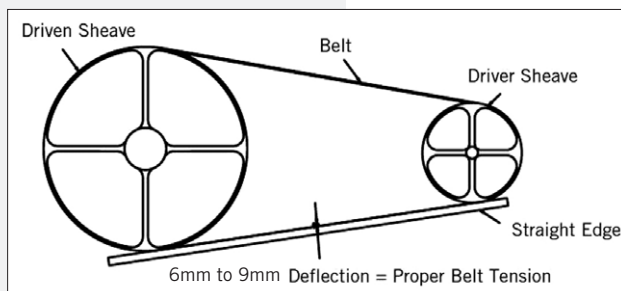
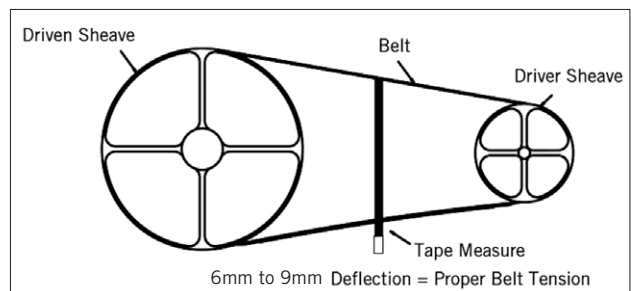

Figure 3a. Belt Tension with a Straight Edge
Figure 3b. Belt Tension with a Tape Measure
- Place a straight edge along the belt from sheave to sheave as shown in **Figure 3a**, or use a tape measure as shown in **Figure 3b** to measure belt deflection.
- There is adequate belt tension if the belt deflects between 6mm and 9mm as shown in **Figures 3a** and **3b**.